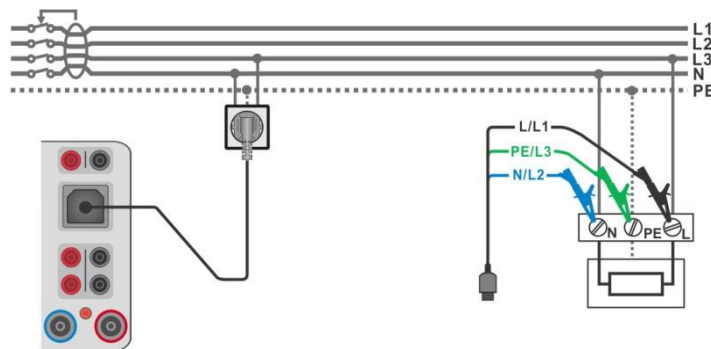

Figure 6.85: Z auto measurement connection
- › Connect 3-wire test lead or Plug test cable to the object under test, see **Figure 6.85**.